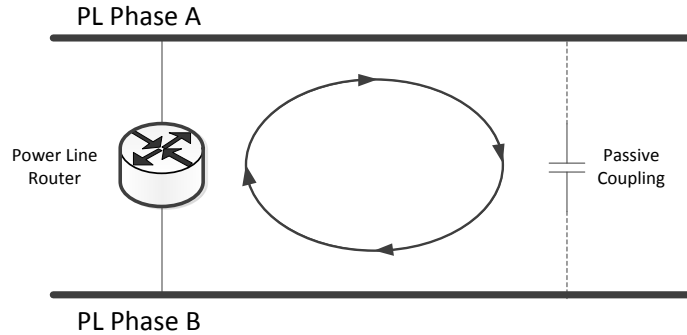

Figure 7. A Looping Topology with One Router
A looping topology can be inadvertently created when using power line (PL) media. Passive coupling between different phases of a power line system can cause packets transmitted on one phase to be received by devices installed on another phase. A loop can be formed when active coupling provided by a router is combined with passive coupling. **Figure 7** shows an example looping topology with a power line router.